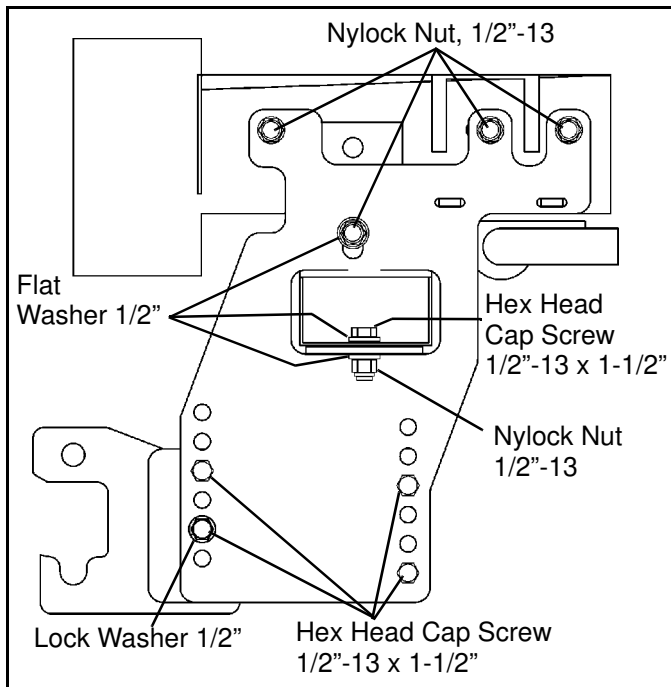

Figure 4
- Secure the Vehicle Center Member using (8) 1/2"-13 x 1-1/2" Caps Screws (#6), (2) 1/2" Lock Washers (#8) where indicated and (6) 1/2" Nylock Nuts (#9) (See Figure 4).